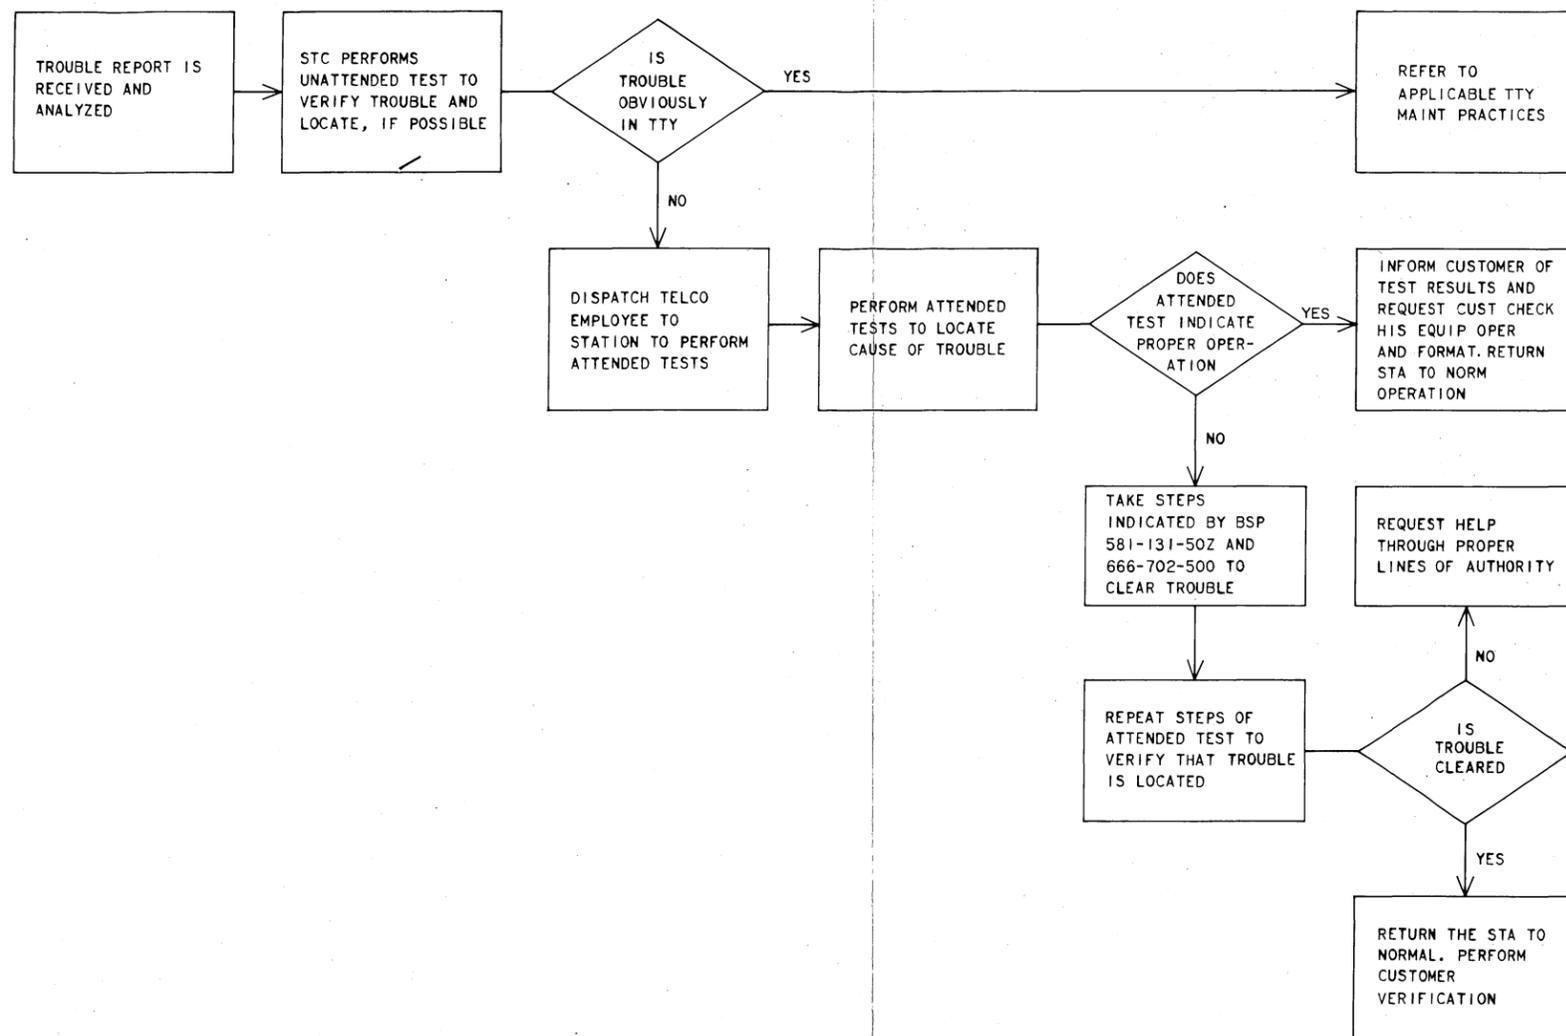

Fig. 9—Flowchart—Maintenance Philosophy and Troubleshooting Procedure
5.01 Maintenance of the 85A1 DSCS station should be performed in accordance with the flowchart shown in Fig. 9. This chart is provided as a guide for an organized trouble locating procedure with a minimum amount of time spent to locate a reported trouble condition.